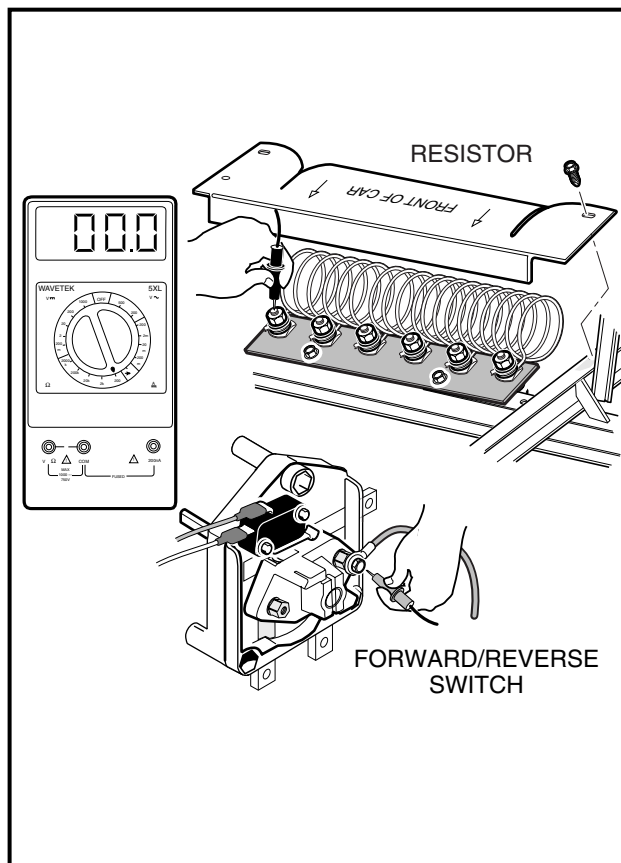

Figure 11-16 Motor Test – Armature
- 2.1. To test the motor armature place the Forward/Reverse handle in the NEUTRAL position, place the red (+) probe on the terminal (with the heavy purple wire attached) on the forward and reverse rotor, and place the black (-) probe on the last resistor coil connection (black and gray wires). The reading should be continuity (**Figure 11-16, Page 11-14**).